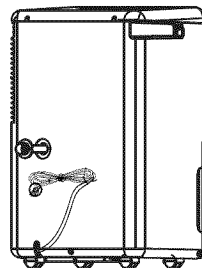

Fig. 12
- Wrap the cord and bundle it with the band (Fig.12) .